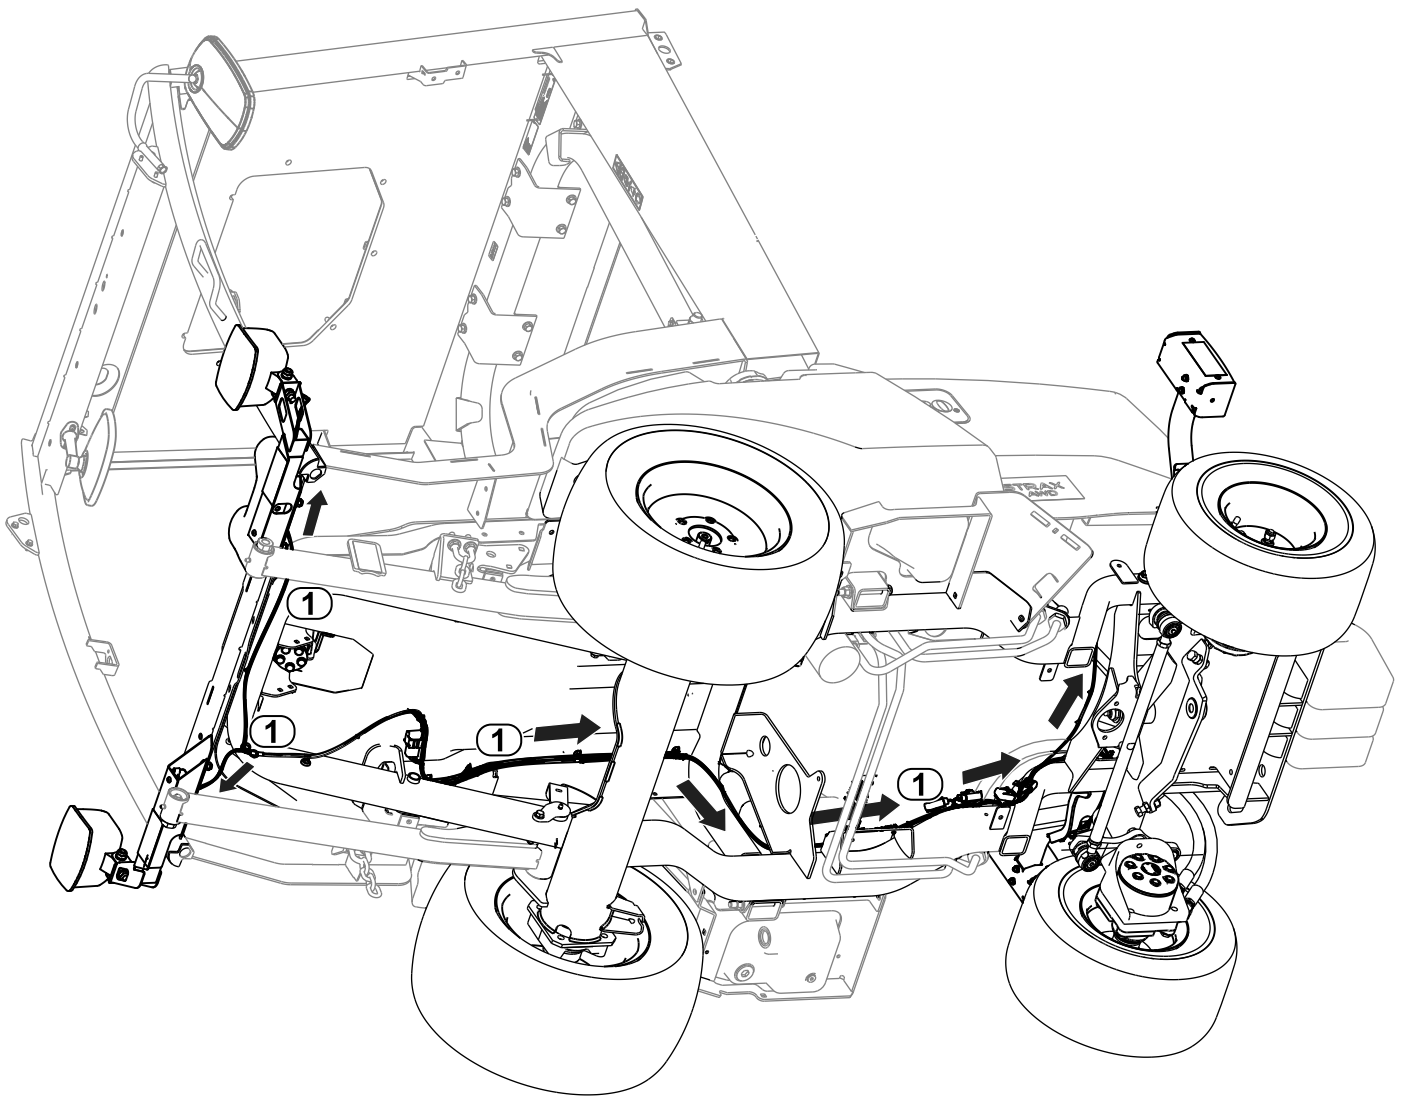

Figure 33
1. Route the wire-harness connector labeled FRONT LIGHT LH (P04) to the left side of unit. Connect harness to light (Figure 33).
2. Route the wire-harness connector labeled FRONT LIGHT RH (P05) to the right side of unit. Connect harness to light (Figure 33).
3. Route the wire-harness connector labeled REAR LIGHT LH (P01) to the rear left side of unit (Figure 33).
4. Route the wire-harness connector labeled REAR LIGHT RH (P02) to the rear right side of unit (Figure 33).
- Connect the wire-harness connector labeled REAR LIGHT LH (P01) to rear light (Figure 33).
- Connect the wire-harness connector labeled REAR LIGHT RH (P02) to rear light (Figure 33).